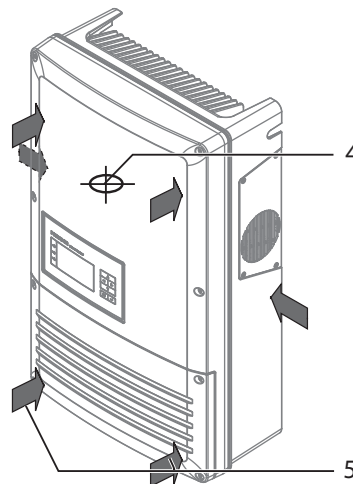

Figure 9: Lifting the inverter
6. Lift the inverters to the intended positions (see Figure 9).